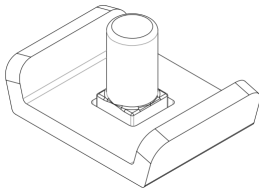
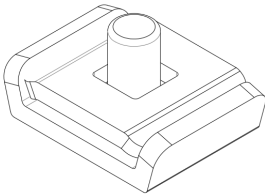

Figure 2
Figure 3
Step 7: Use metal buckles to connect the front shield and the right shield (specific steps are: 1. Insert the M5 bolt into the large link button hole, see Figure 2. 2. Insert the assembled M5 bolt into the front shield and connect it to the right shield. Boundary 3: Cover the small link buckle on the large link buckle and pass it through the M5 bolt, see Figure 3. 4.Finally, tighten the M5 nut and M5 bolt, see Figure (4)